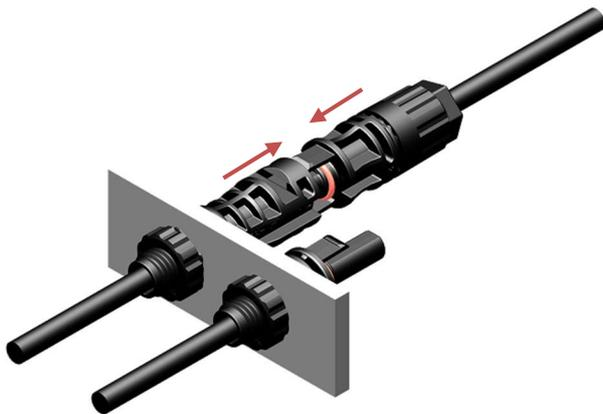

Figure 20
- ◇ 公母连接器插合：将公/母电缆连接器插入母/公面板连接器，直至其啮合。轻轻拉动，以检查是否啮合牢固（如图 20&21）。同时检查公母连接器有无对配不到位现象（如图 22）。
Insert the Male/ female cable connector into the female/ male panel connector until they engage. And pull lightly to check correct engagement (Fig. 20&21). At the same time, check whether the male and female connectors are in place or not (Figure 22).